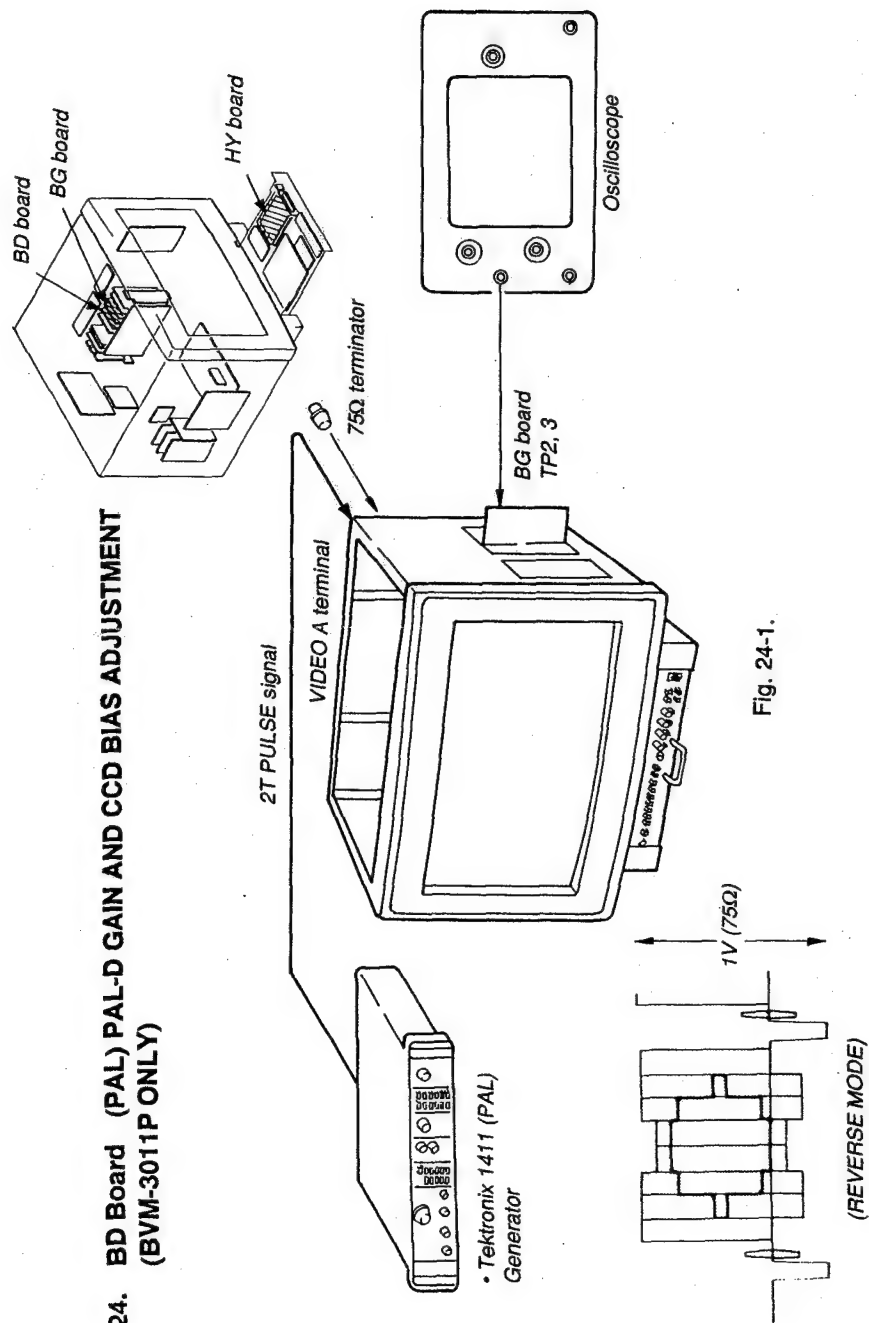

Fig. 24-1.
1. Complete the connection as shown in Fig. 24-1. Turn on the power of this monitor. Set the INPUT switch to the 1 position, and the SYNC switch to the INT position.